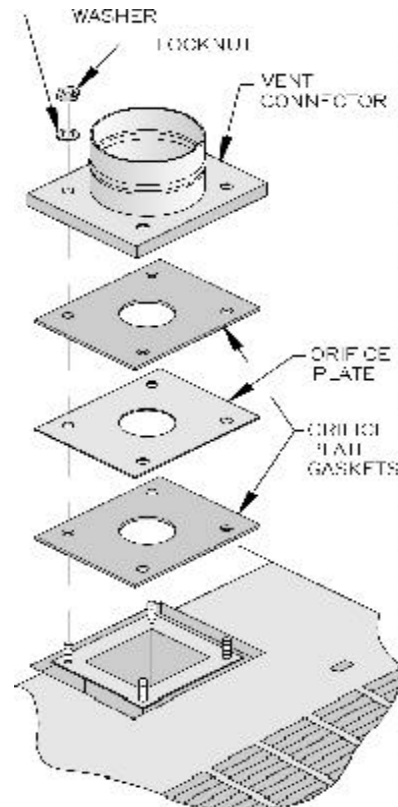

Figure 7: Vent Connector Installation
3. Assemble orifice plate gaskets, orifice plate, and vent connector. See Figure 7.